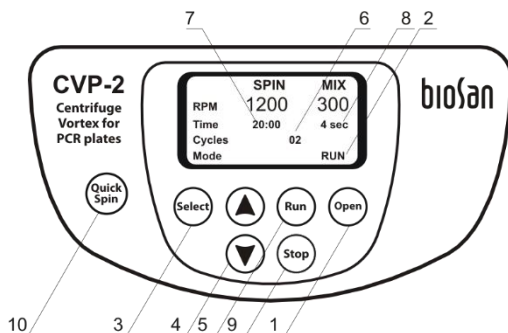

**Fig. 1. Rotor replacement**
- Unscrew the fixation nut (Fig. 1/1) counter clockwise using the wrench included in standard set and remove the nut.
- Place the rotor and secure it tightly with the fixation nut, placing the nut with the key holes up (Fig.1/1) and turning it clockwise by the included wrench.
- Place the safety cover (Fig. 1/2) on the rotor by pressing the cover clip (Fig. 1/3) down;